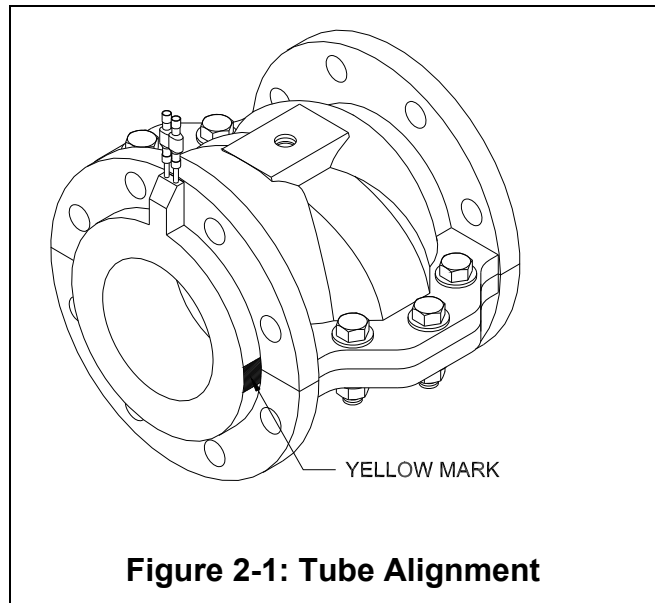

Figure 2-1: Tube Alignment
- 1) Yellow marks on outside flange of the elastomer tube line up within 5 degrees of the valve body split (see figure 2-1).